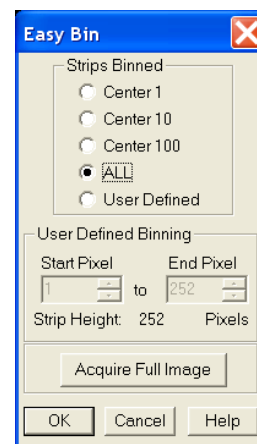
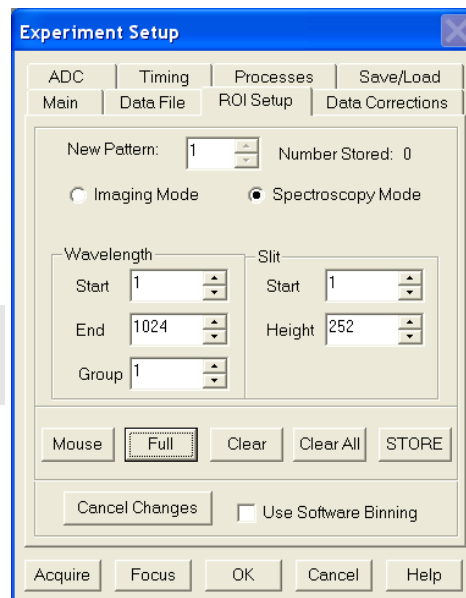

Figure 128. Easy Bin dialog
Figure 129. ROI Setup tab (Spectroscopy Mode)
A Region of Interest (ROI) may be the entire CCD array or it may be a rectangular subregion of the array. For data acquisition, the definition of such a region is done either from the **Easy Bin** dialog (Figure 128, page 144) accessed from the **Acquisition** menu or from the **Experiment Setup|ROI Setup** tab (Figure 129, page 145), accessible after selecting **Experiment Setup** from the **Acquisition** menu. Easy Bin is a simple way of a defining a single full chip width ROI. ROI Setup allows you to create multiple ROIs with greater flexibility in ROI location and width.
2. On the **Easy Bin** dialog (Figure 128), click on the appropriate radio button:
1. Open the **Experiment Setup** dialog and click on the ROI Setup tab to open the **ROI Setup** tab (Figure 129).